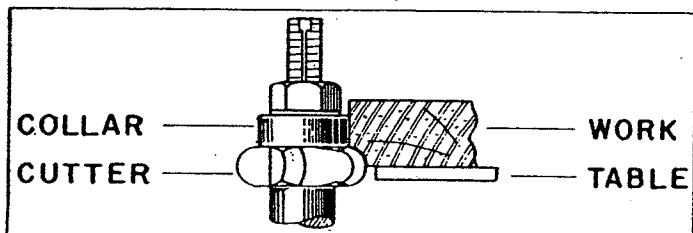

Fig. 32
3. When the collar is used above the cutter as shown in Fig. 32, the cut cannot be seen, yet this method offers some advantage in that the cut is not affected by slight variations in the thickness of the stock. Also, accidental lifting of the work will not gouge the workpiece. Simply correct the mistake by repeating the operation.